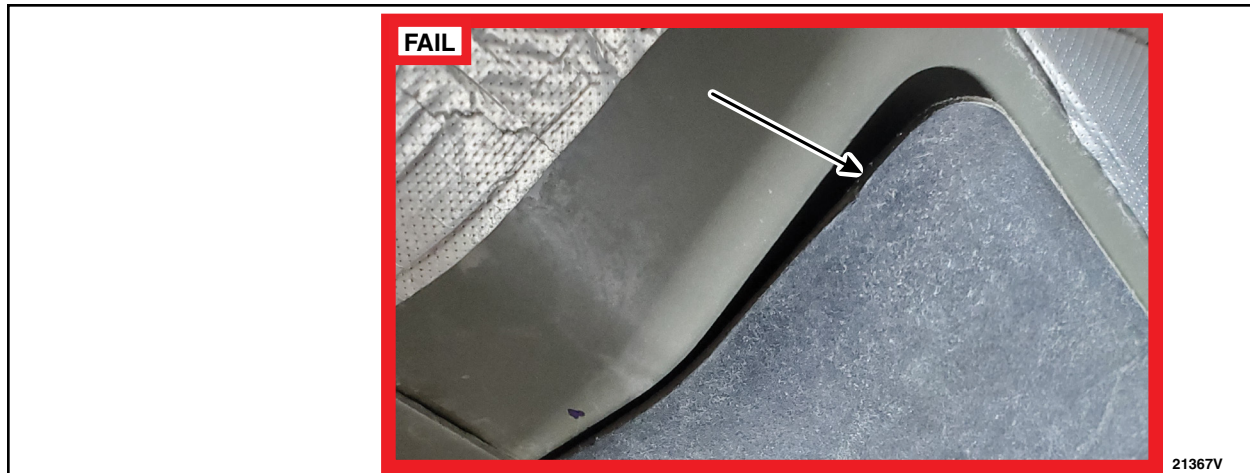

FIGURE 4
5. Inspect the driver side insulator for any edges hanging down or touching the fuel tank. Is the insulator hanging down or touching the fuel tank? See Figure 4.